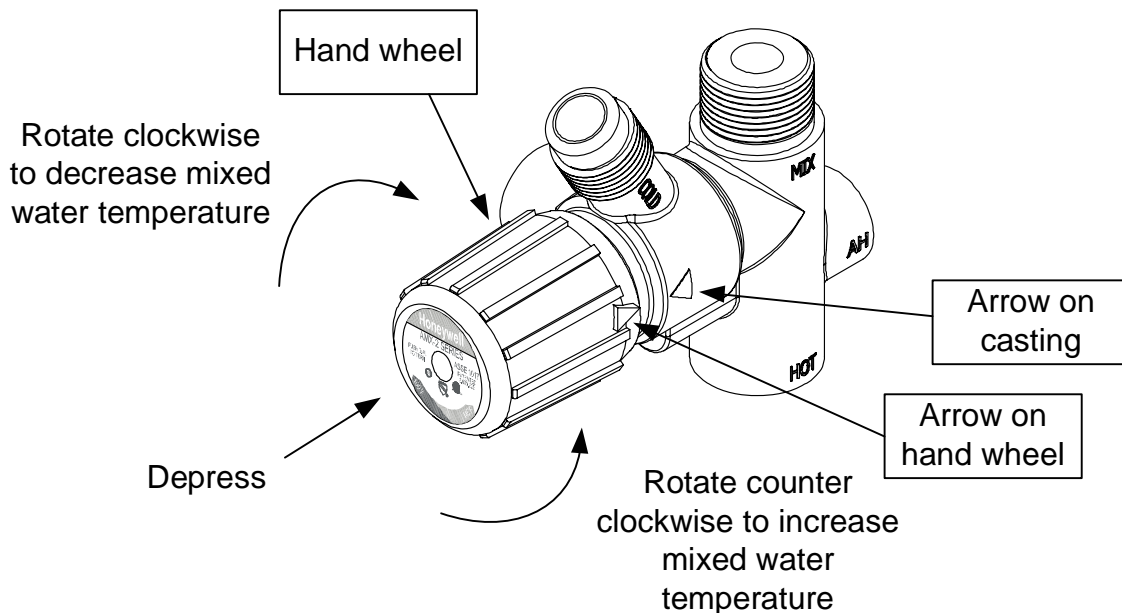

Figure 9
a. To Increase Mixed Water Supply Temperature: Depress and rotate the hand wheel counter clockwise until the desired set point is reached (see Figure 9). Refer to thermostrip temperature reading for desired set point (hot water must be flowing at a minimum of 1 gpm to accurately read thermostrip). Ensure the hand wheel snaps back to the locked position once desired set point is reached.
b. To Decrease Mixed Water Supply Temperature: Depress and rotate the hand wheel clockwise until the desired set point is reached (see Figure 9). Refer to thermostrip temperature reading for desired set point (hot water must be flowing at a minimum of 1 gpm to accurately read thermostrip). Ensure the hand wheel snaps back to the locked position once desired set point is reached.